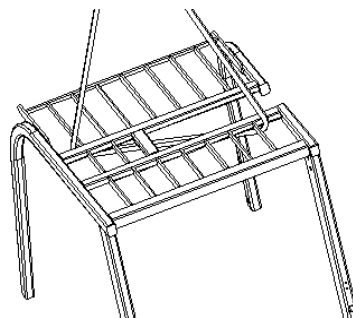

Figure 2-43
(2) Hoisting for Overhead Guard See Figure 2-43